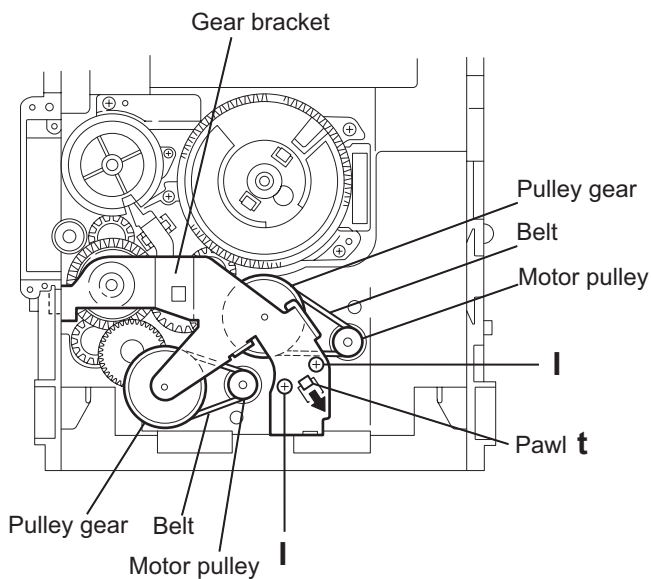

Fig.18
3.3.8 Removing the actuator motor and belt (See Fig.18~21)